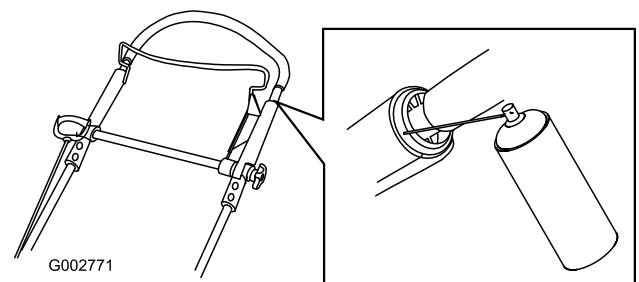

Figure 34
1. Spray the outer plastic end of the inner handle (Figure 34).